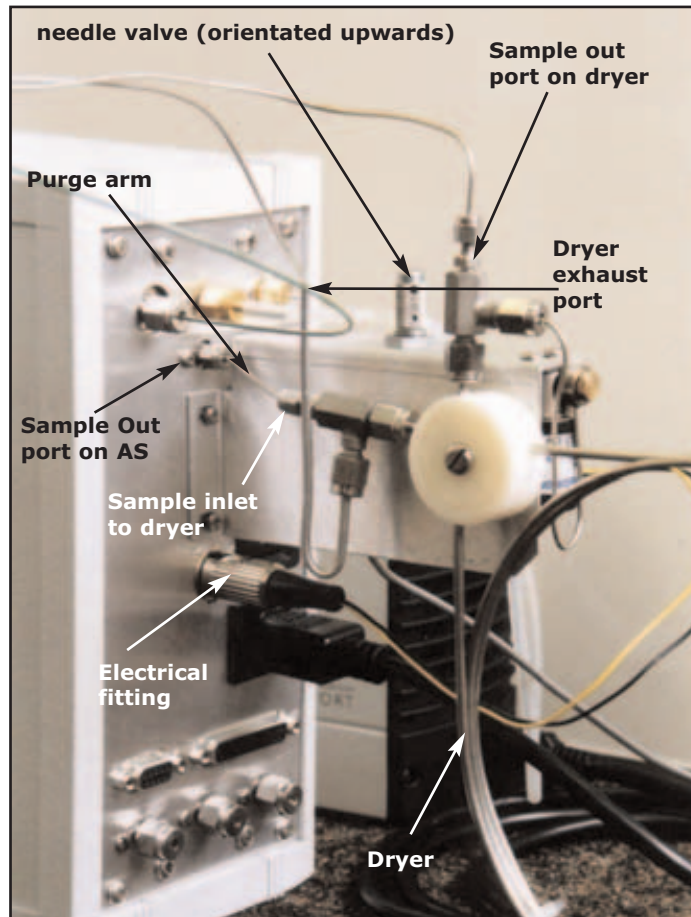

Figure 7. Mounting bracket attached to the back panel of the Air Server
If the dryer is required (see above) (refer to figures 7 and 8)
- The dry air or nitrogen exhausts from the dryer as shown in figure 7.
- Connect the 1/16" stainless steel nut of the UNITY to Air Server Link tube (SERASU-5021) to the '**SAMPLE OUT**' point of the dryer (see figure 7).